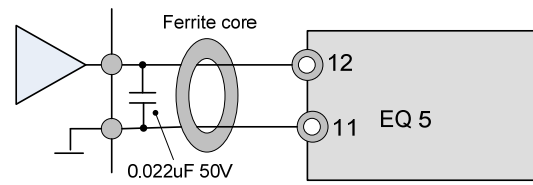

Fig. 2-3-9 Noise Suppression Example
An inverter of 40HP/CT, 50HP/VT or greater uses an AC cooling fan. When the inverter is being operated with DC Input power, the fan must still be energized from an AC power source. To do this, position the fan connector (CN RTXT) as shown in Fig. 2-3-9 and provide AC voltage to auxiliary input terminals R0 and T0. For the (CN RTXT) connector placement method, see Fig. 2-3-7.
c. If an external analog signal output device is connected to these terminals, it may malfunction as a result of inverter noise. To prevent malfunction, connect a ferrite core or capacitor to the external analog signal output device as shown in Fig. 2-3-9.